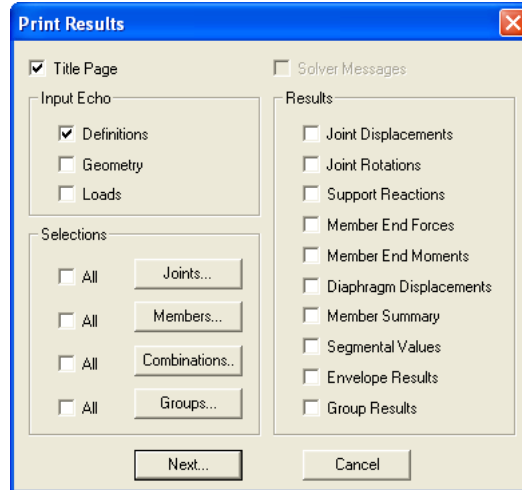

Figure 3-6 Print Results dialog box
- From the **File** menu, select **Print Results**. The dialog box of Figure 3-6 appears.